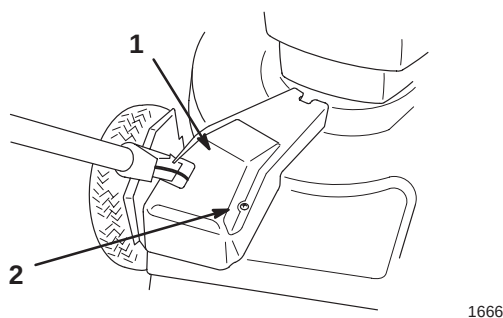

Figure 26
2. Remove the bolts that secure the belt cover to the lawn mower housing (Fig. 26).